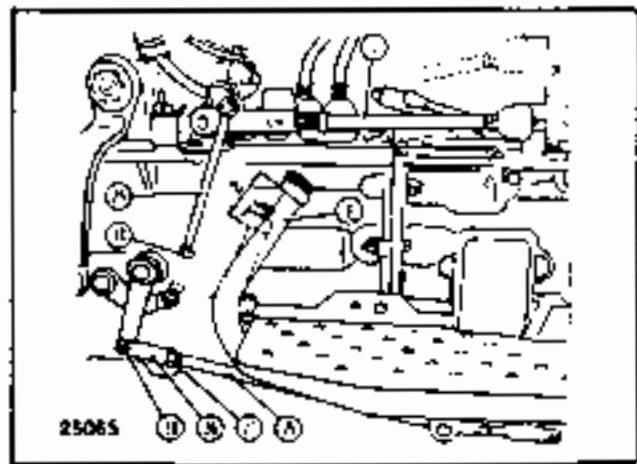

FIG. B.120 CLUTCH PEDAL AND CONTROL HAND LEVER FREE TRAVEL ADJUSTMENT AND CHECK
2. Clutch pedal (P, Fig. B.120) and P.T.O. clutch control hand lever (L) free travel adjustment.
The free travel of the main clutch foot pedal (2 Fig. B.120) before it begins to disengage the main clutch should be 1.376"-1.572" (35mm-40mm).
- loosen lock nut (27, Fig. B.120), remove bolt (28), to detach forkhead (26), unscrewing, considering the free travel will vary by about .39" (10 mm) for each full turn.